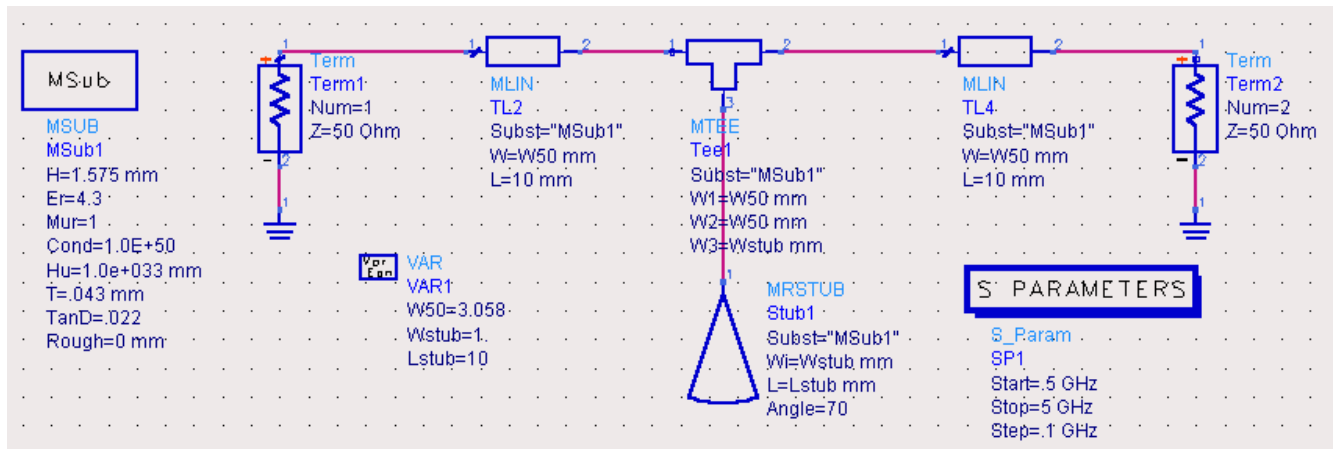

Figure 2. Initial circuit schematic.
- 1) Use the approach outlined in Procedure #6 to create the circuit schematic given in Figure 2. The specifics are as follows: